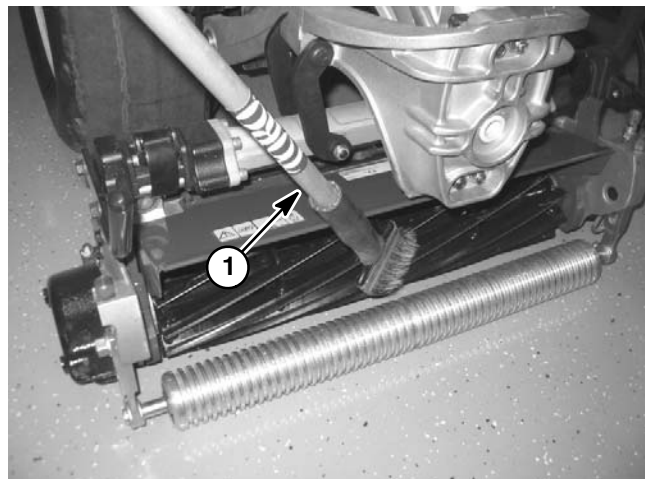

Figure 15
6. Apply lapping compound with a long handle brush (see Special Tools in this chapter) (Fig. 15). Never use a short handle brush to apply lapping compound.